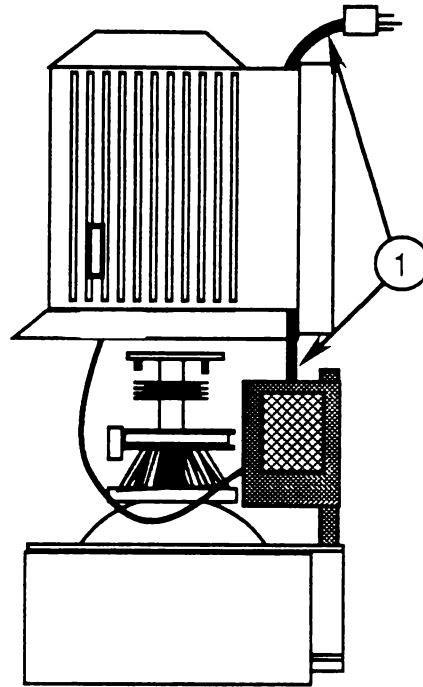

FIGURE 5
3. Guide the AC power cord (Figure 5, #1) through the opening in the rear cover while you lower the rear cover onto the monitor.